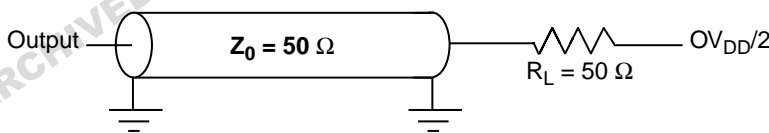

Figure 13. Alternate AC Test Load for the JTAG Interface
1. All outputs are measured from the midpoint voltage of the falling/rising edge of TCLK to the midpoint of the signal in question. The output timings are measured at the pins. All output timings assume a purely resistive 50-Ω load (see Figure 13). Time-of-flight delays must be added for trace lengths, vias, and connectors in the system.
Figure 13 provides the AC test load for TDO and the boundary-scan outputs of the MPC7450.